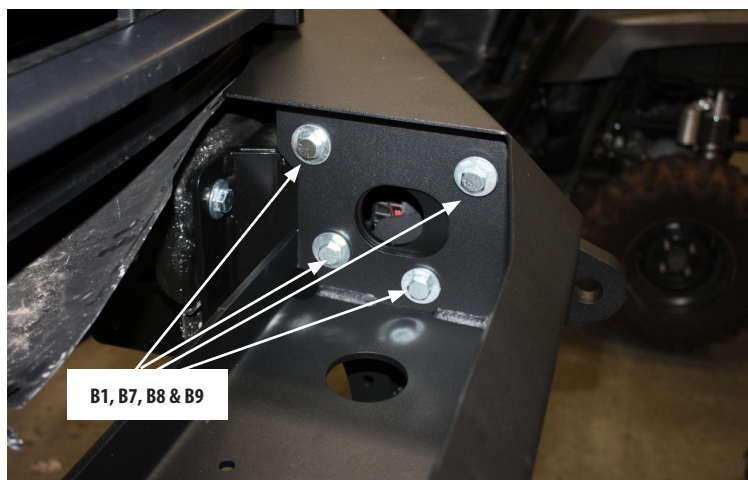

Figure 16
27. Slide bumper (A1) in place and loosely attach to front frame brackets using B1, B7, B8 and B9. Do not tighten at this time. Figure 16.